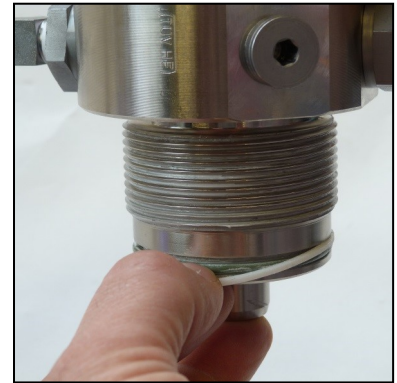

Fig. 1 - Change o-ring and back-up ring
- Change o-ring and back-up ring, previously grease both (Abb. 1)